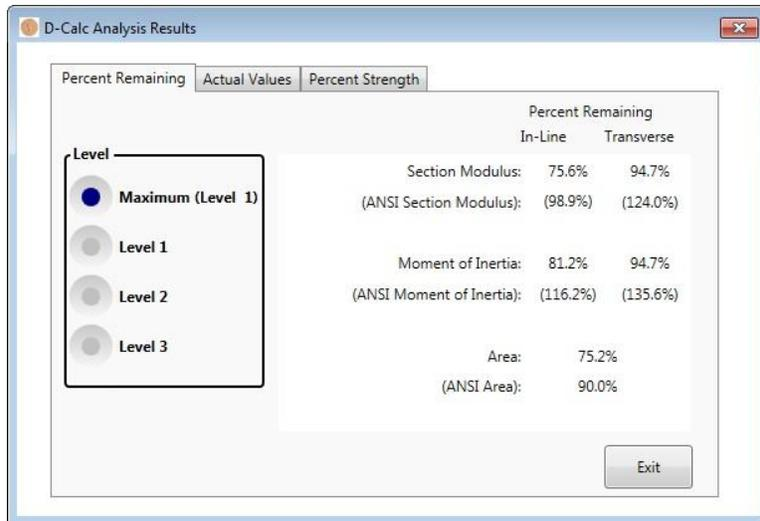

Figure 2-13. Results of Analysis on Example 2
5. Now, click the **Analyze** button and the results (Figure 2-13) indicate that the pole has 76% remaining section modulus in-line and 95% remaining transverse, based upon the actual pole size. The ANSI COMPARISON results show that the pole was oversized to begin with and retains 100% of its in-line section modulus and 124% transverse.